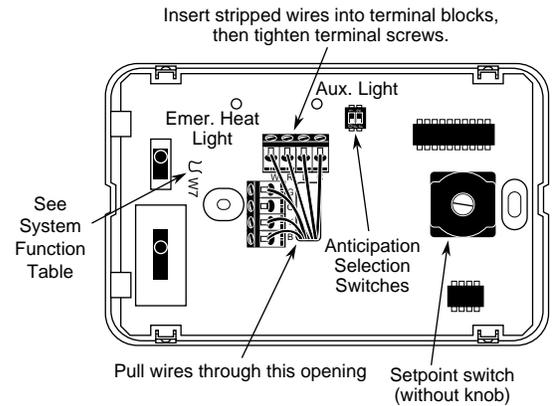

Figure 3. Thermostat base with typical wiring
2. Using needle-nose pliers, insert wire into correct terminal block opening (see figs. 3 and 4).
■				■		■		■		■			Heating Mode: stage 1 calling. Fan relay, compressor contactor, and reversing valve (B) energized by thermostat.
■				■		■		■	■	■		■	Heating Mode: both stages calling. Fan relay, compressor contactor, reversing valve (B), and auxiliary heat relay are energized.
■					■	■		■	■		■	■	Emergency Heat Mode: aux heat, fan relay *, and reversing valve (B) are energized. Compressor locked out.
■		■				■	■			■			Cooling Mode: Fan relay, compressor contactor and reversing valve (O) energized.
* In Emergency Heat Mode, fan may be disabled, if required, by cutting jumper W7 (see fig 3).
3. Find the anticipation adjustment switches (see fig. 3).